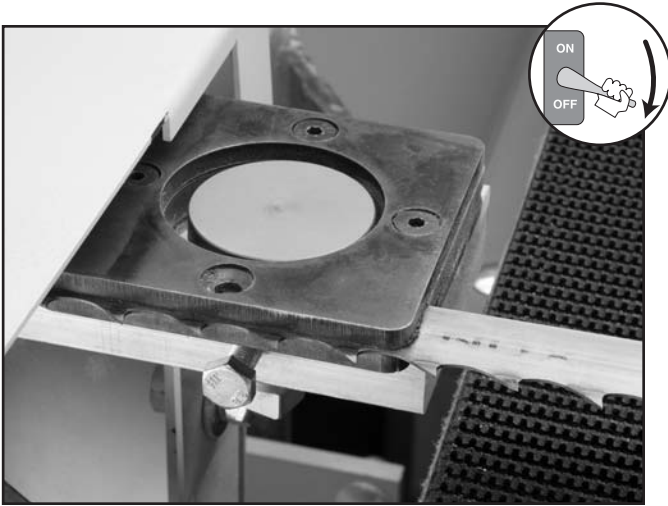

Figure 20. Blade positioned between guides.
- Carefully fit the blade over each wheel, and position it between the blade guides as shown in **Figure 20**. Make sure the teeth point toward the right-hand side of the machine, as you are facing the front.